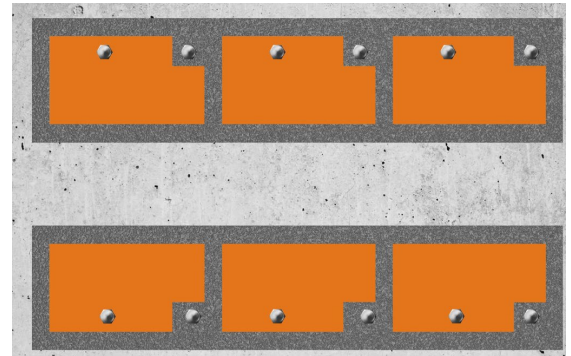

Figure 1 – Example of a chocking plan
- Ensure a chocking plan for the machine is available, showing where the chocks and bolts will be located within the dam. An example of a chocking plan is shown in Figure 1.